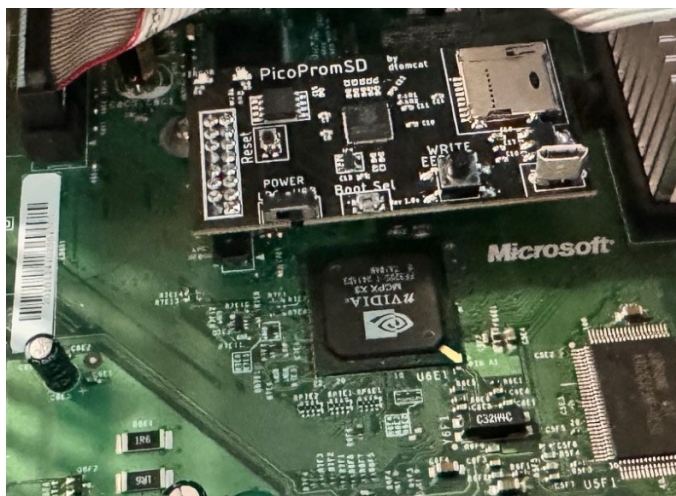

Figure 1.
2. With the Xbox POWERED OFF and Power switch is on USB (to the right), place the PicoPromSD onto the pin header on the LPC port. Place it so that the microSD and button are on the right hand side of the LPC port and are closer to the center of the Xbox's motherboard (see Figure 1).